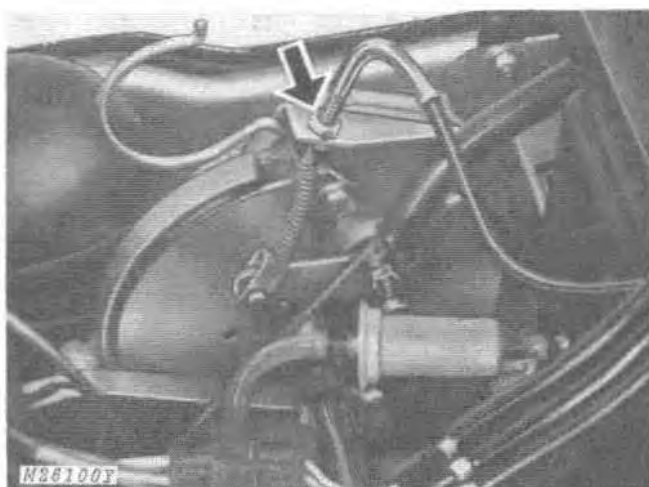

Fig. 20-Brake Cable, Brake Arm and Bracket
8. Remove brake cable from brake arm and bracket, Fig. 20.